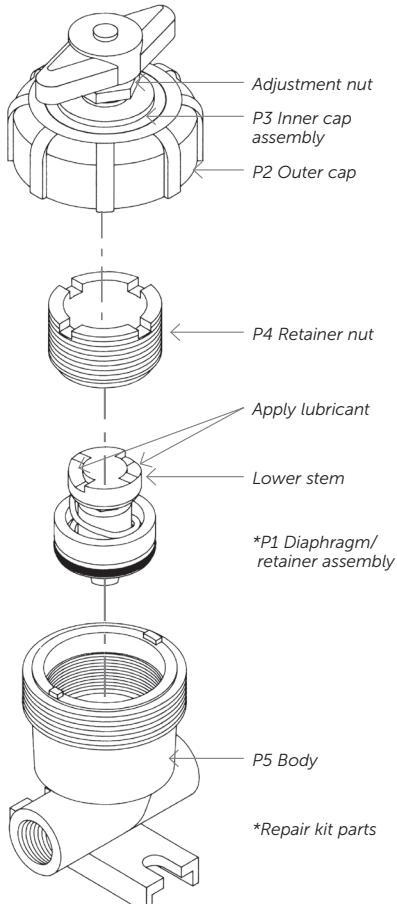

Figure 1.
1. Refer to Figure 1 and begin disassembly by turning the adjustment nut counter-clockwise two turns with the $5/8"$ open-end wrench (S5).